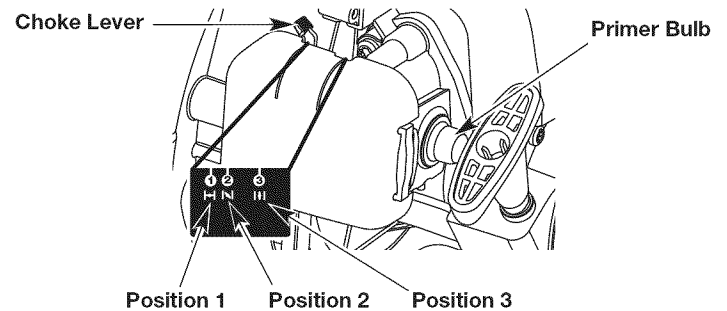

Fig. 8
3. Slowly press and release the primer bulb **10 times** (Fig. 8). If fuel cannot be seen in the primer bulb, press and release the primer bulb until fuel is visible.
4. Move the choke lever to **Position 1** (Fig. 8).
8. Move the choke lever to **Position 2** (Fig. 8).
11. Move the choke lever to **Position 3** (Fig. 8) and continue warming the engine for an additional 60 seconds. The unit may be used during this time.
**IF...** the engine hesitates, return the choke lever to **Position 2** (Fig. 8) and continue the warm-up.
9. Move the choke lever to **Position 2** (Fig. 8).
13. Move the choke lever to **Position 3** (Fig. 8) and continue warming the engine for an additional 60 seconds. The unit may be used during this time.